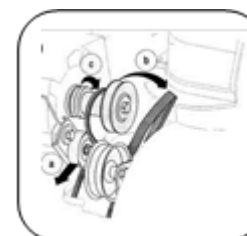

Figure 19
c. Lift the drive belt off engine pulley. See Figure 19.